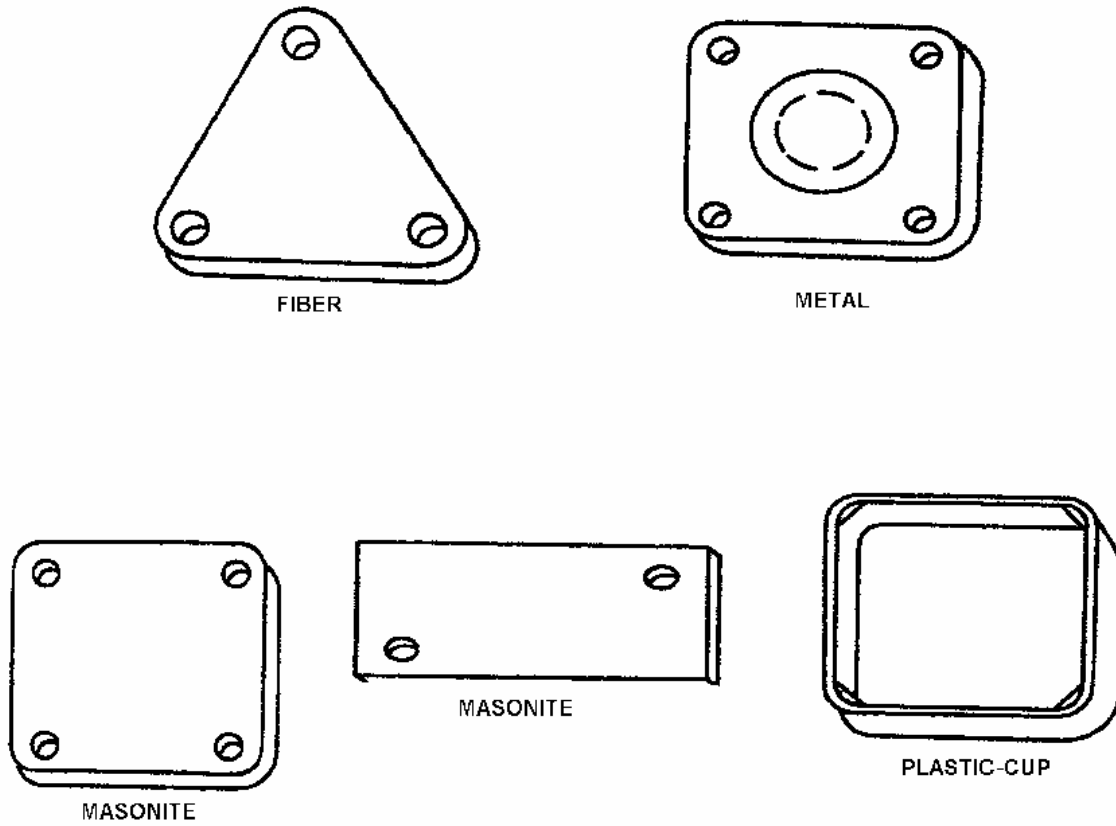

Figure 1. Typical Blankoff Plates
8. **BLANKOFF PLATES.** Blankoff plates (Figure 1) are used as follows:
12. Fittings for tube connections are made of aluminum alloy, titanium steel, CRES, brass, and bronze. Fittings are made in many configurations and styles. The usual classifications are flared-tube fittings, flareless tube fittings, brazed, welded, and swaged fittings (Figure 1 through 4). Do not replace O-ring and/or backup ring with crush washer. Refer to WP003 00, Table 2 for identification of fittings.